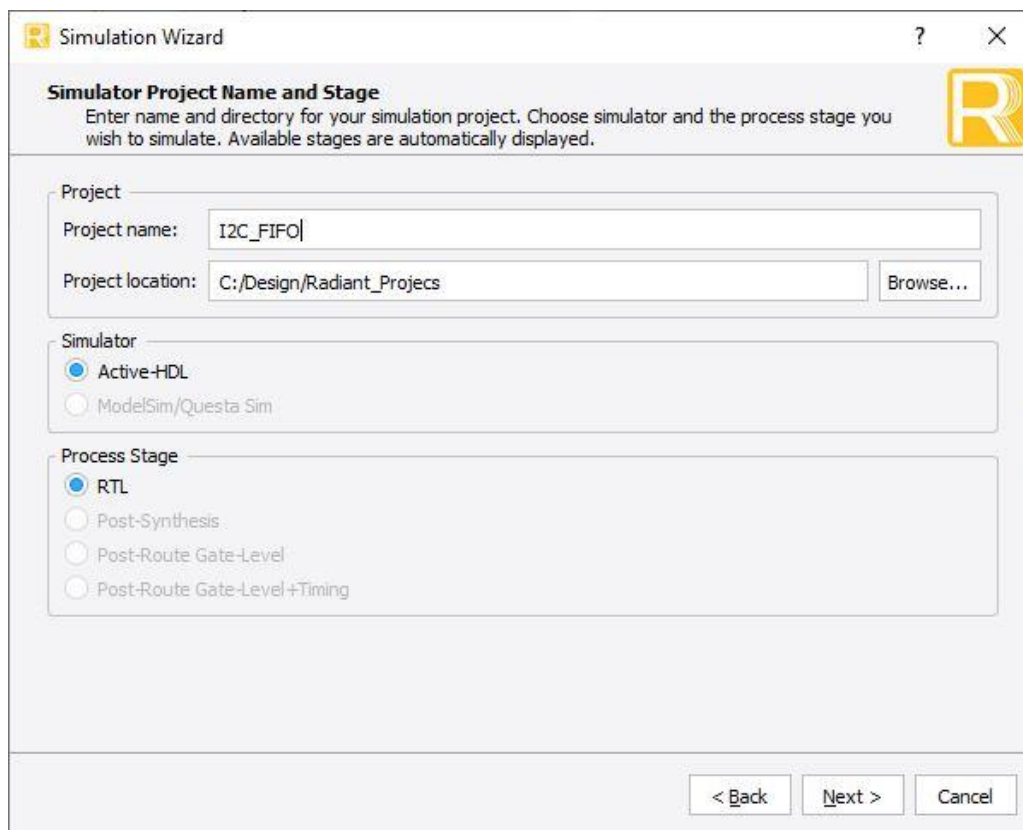

**Figure 3.3. Synthesizing Design**
5. Upon generating desired design, you can synthesize it by clicking **Synthesize Design** located on the top left corner of the screen, as shown in Figure 3.3.